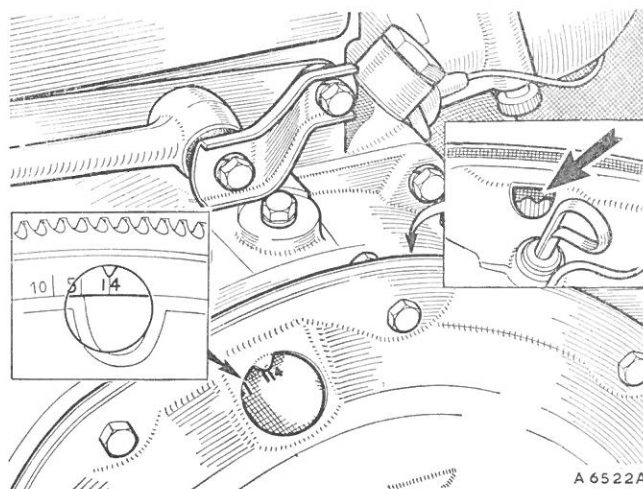

Fig. Ba.1
- (1) Follow the instructions given in Section B.7 with the following exceptions.
- (2) To rotate the crankshaft, insert a screwdriver through the aperture (adjacent to the oil dipstick) on the converter housing, and turn the starter ring gear in the direction of engine rotation to the position described in Section B.7, item (2).
- (3) The three timing marks can be seen on the converter (Fig. Ba.1) after removal of the rubber grommet on the converter end cover.